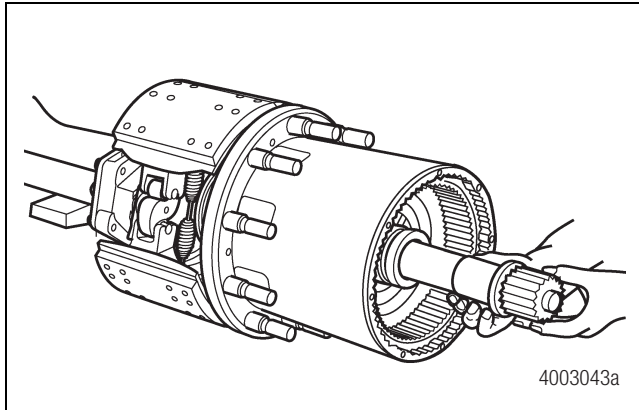

Figure 3.47
3. Install the shaft coupling sun gear assembly into the axle. Figure 3.47.